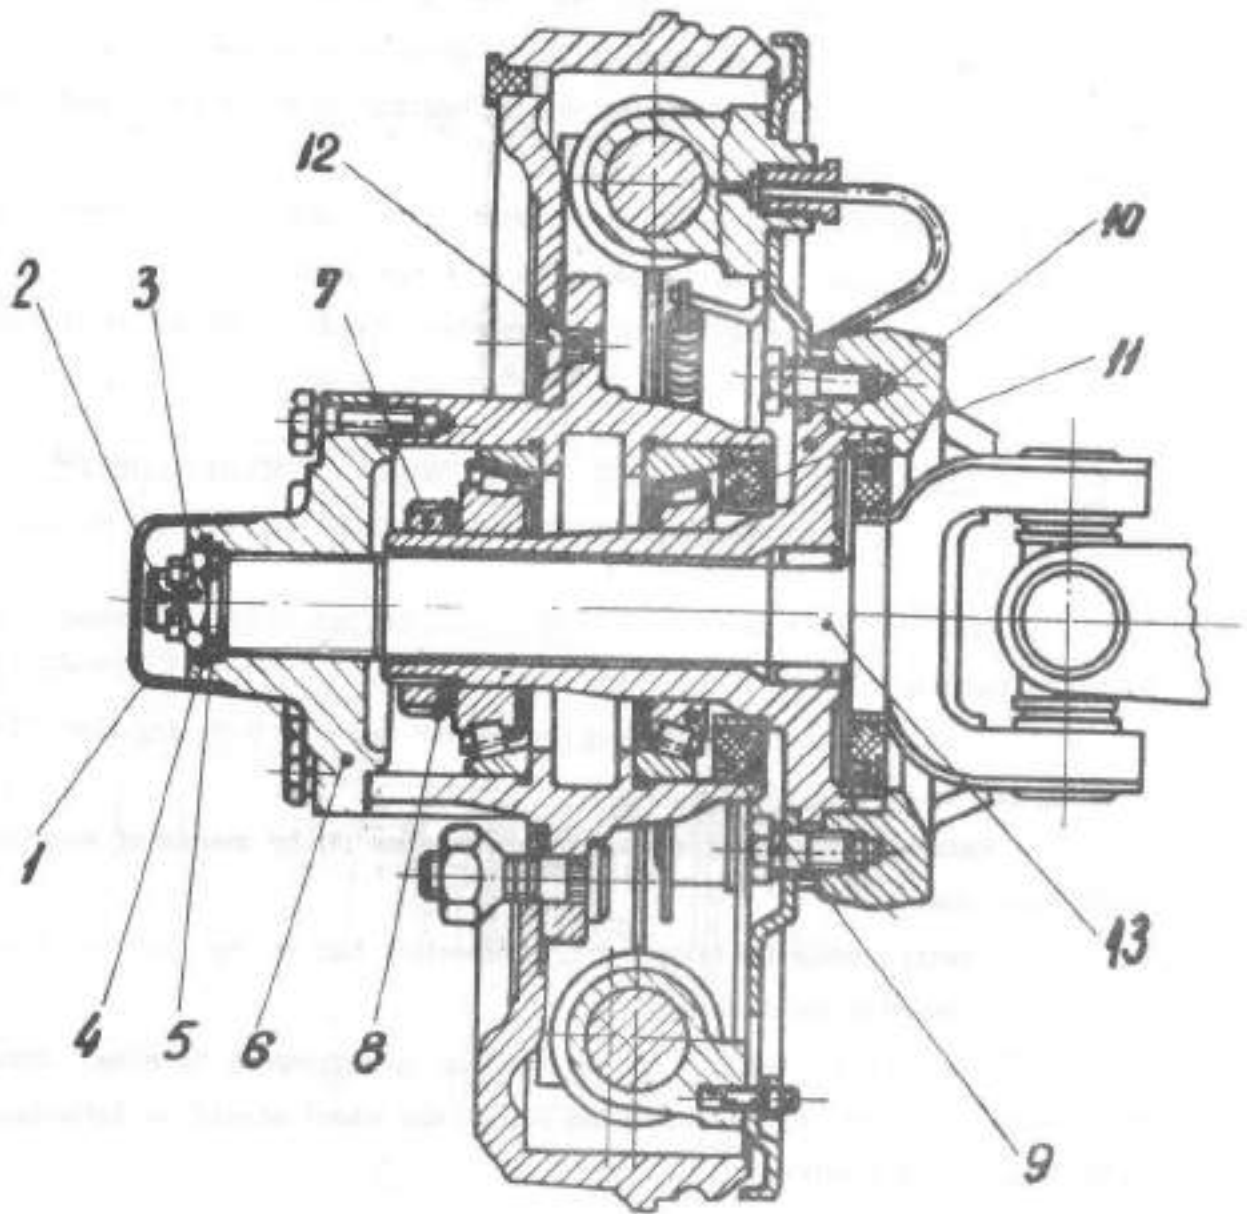

Fig. 2.10. FRONT WHEEL BRAKE DRUM KING PIN ASSY.
- Remove the axle cap, by means of S.121 extractor, and the O-Ring seal (see fig. 2.10).
FLANGE (see fig. 2.10 and 2.11)
- Unscrew bolts fastening brake anchor plate and outer flange on the steering knuckle (see fig. 2.10). Remove brake anchor plate.